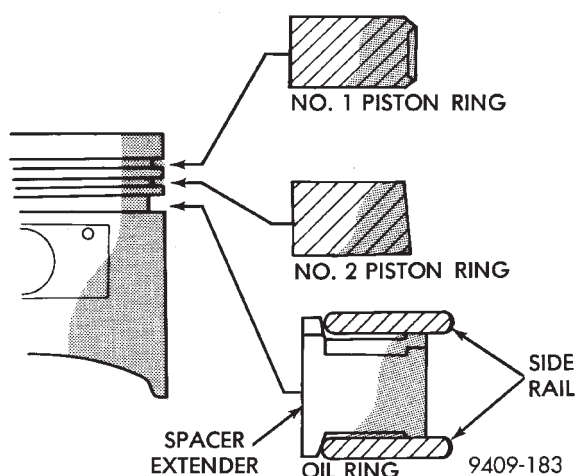

Fig. 9 Piston Ring—Installation
(1) The No. 1 and No. 2 piston rings have a different cross section. Install rings with manufacturers mark and size mark facing up, to the top of the piston (Fig. 9).